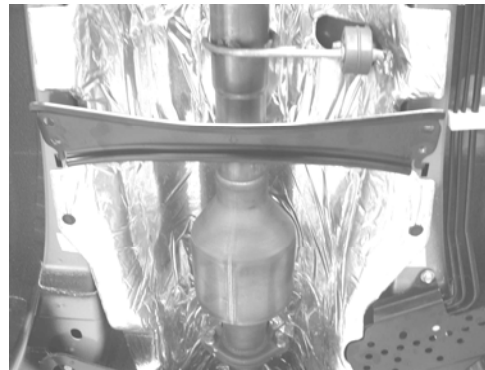

Figure 2
4. Unbolt and remove the front and rear center supports as the one shown in figure 2.